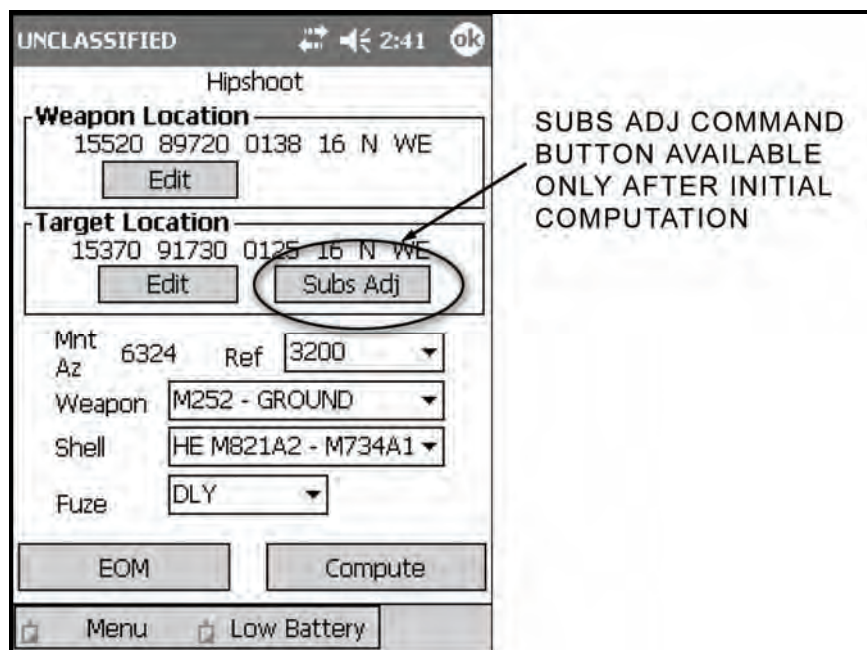

Figure 18-16. Hipshoot Mission screen.
- (1) Select Menu.
- (2) Select Manual Missions.
- (3) Select Hipshoot.
- (4) The Hipshoot Mission screen (Figure 18-16) displays.